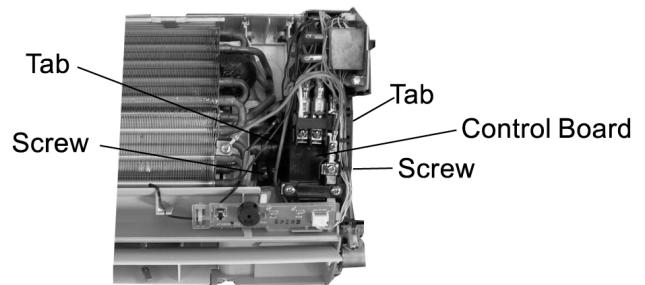

Fig 6
3. Release the tabs and screws on the left and right side of the control board to remove the control board. (**Fig 6**)